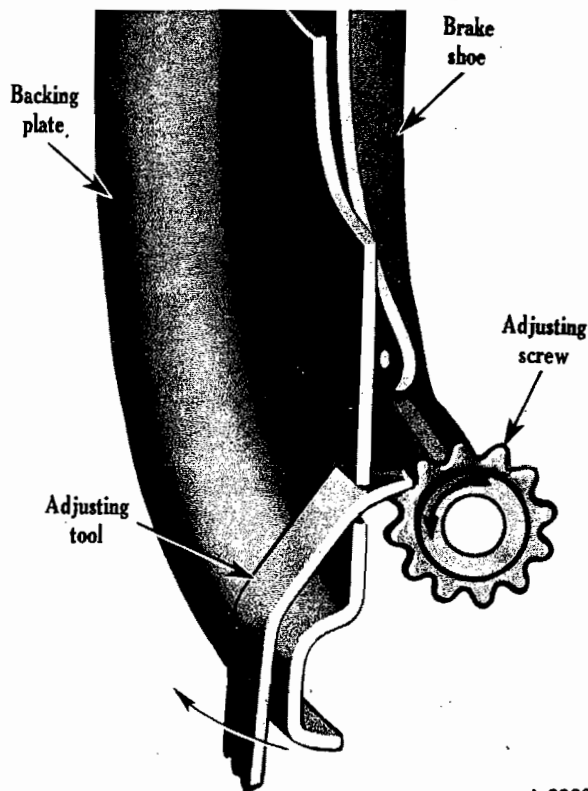

Fig. 5
5. Insert screwdriver or special adjusting tool in slot of backing plate to engage star wheel adjusting screw (Fig. 5).